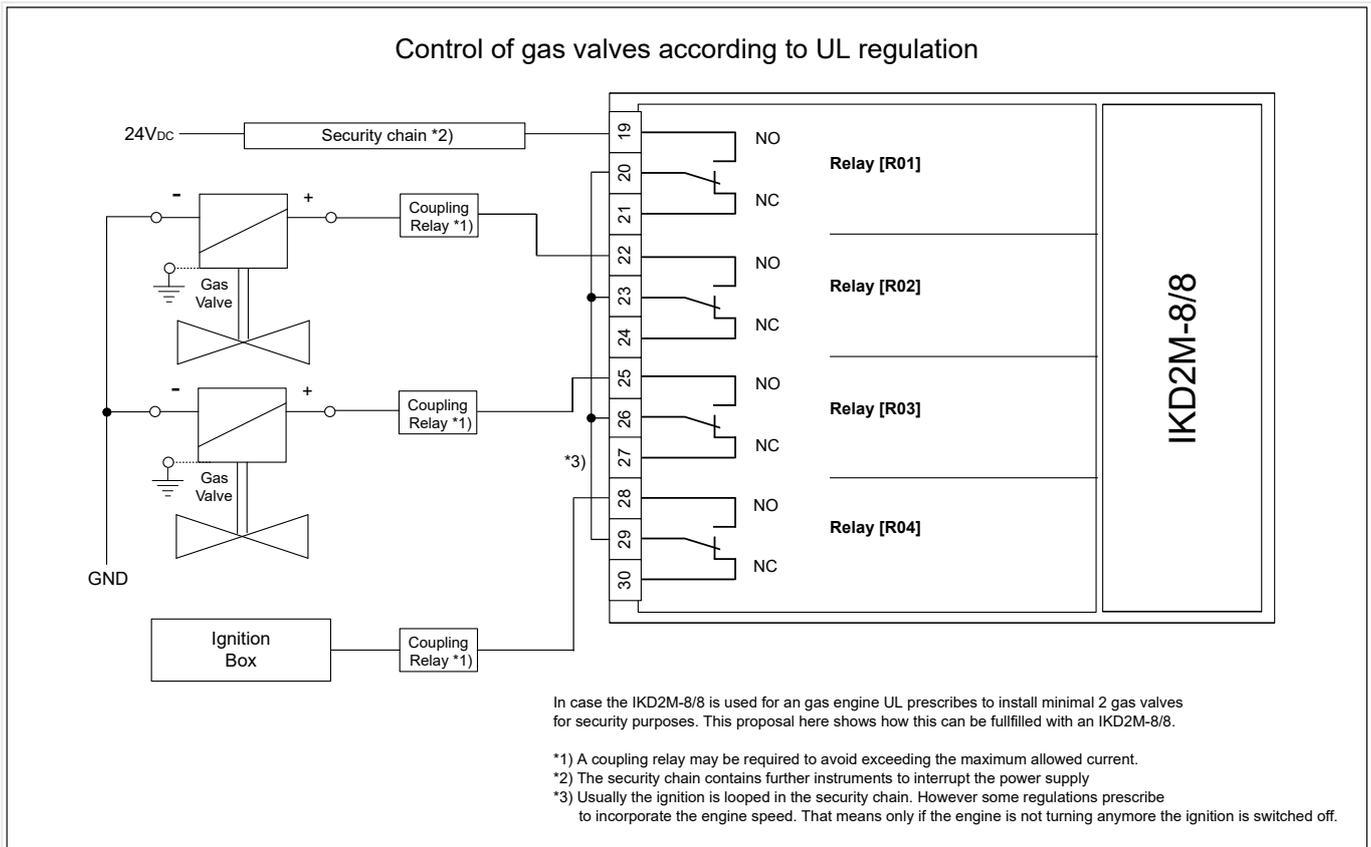

Fig. 9: Control of gas valves according to UL regulation
- Relay 1 must be connected in series to the relay outputs used for FUEL and GAS VALVE coupling relay (see figure below Fig. 9)